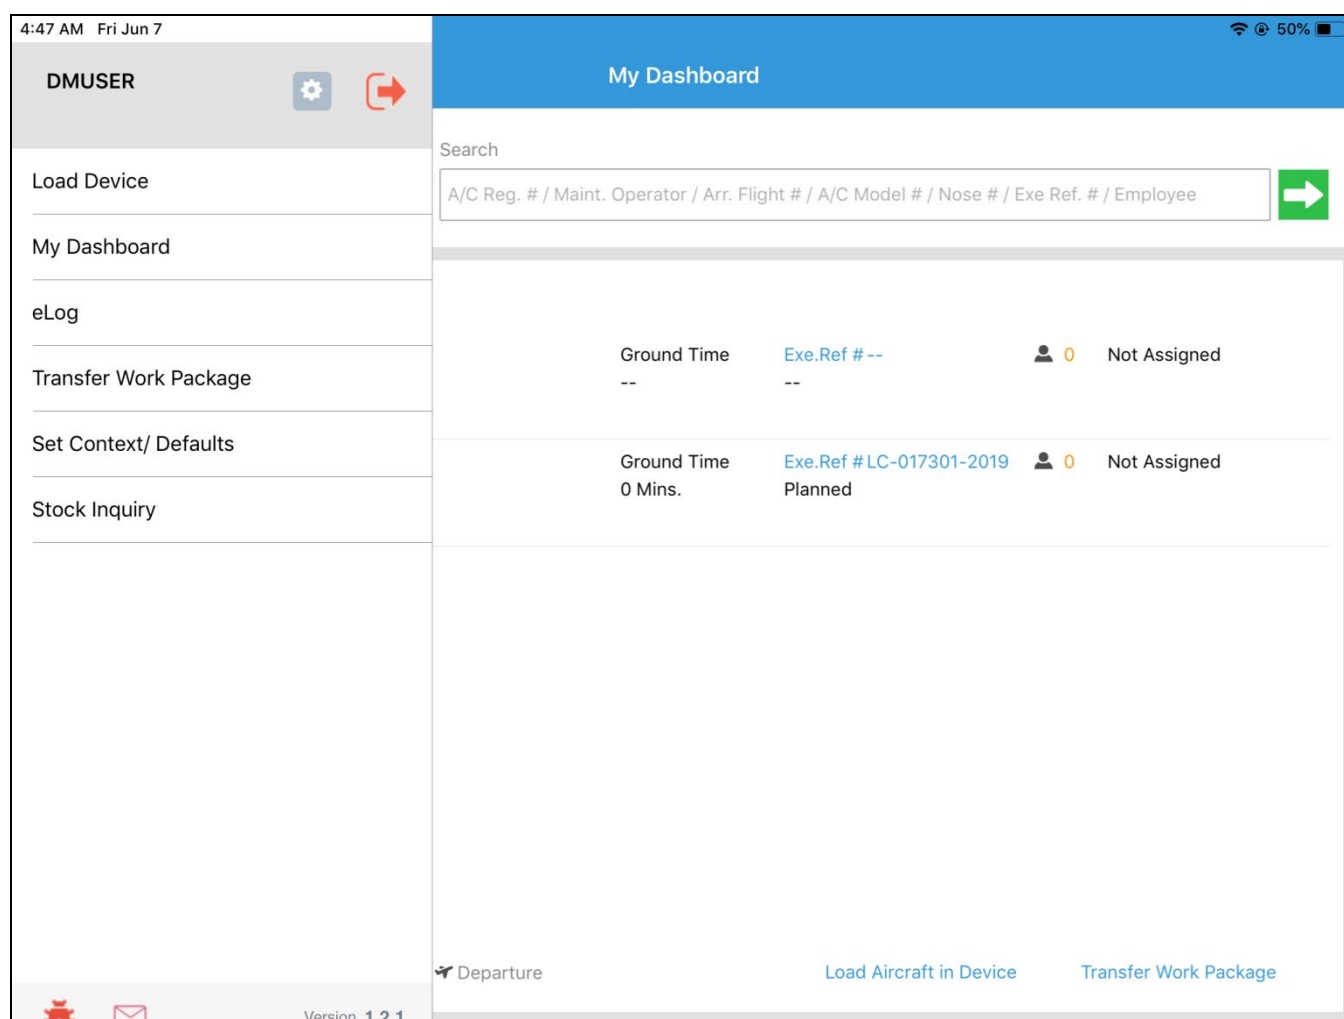

Figure 4.9: The My Dashboard page
1. Tap the **My Dashboard** link in the left pane of **LineAnywhere**. The **My Dashboard** page appears. See Figure 4.9.